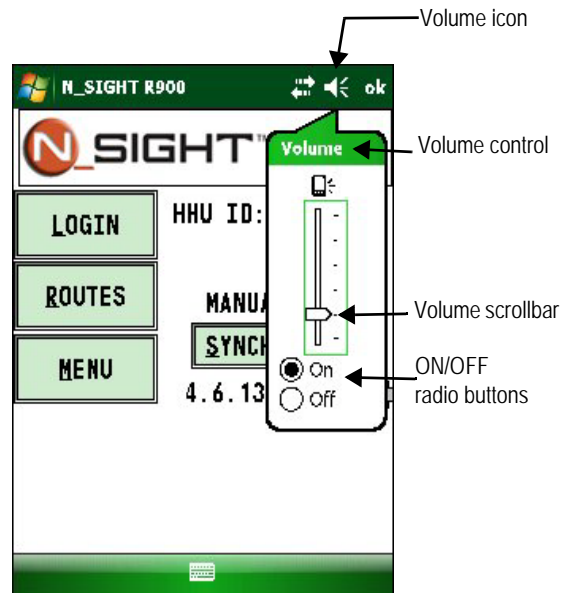

Figure A.1 Handheld Volume Control
- 1 On any screen in N\_SIGHT R900, click the volume icon at the top of the screen. The following drop-down scrollbar appears. See Figure A.1 on page A-2.